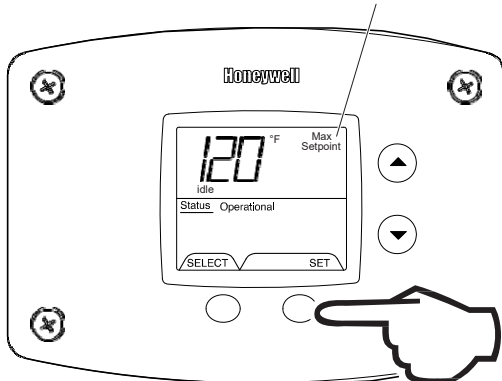

Fig. 54
4. Press 'Set' button to confirm new 'Max Setpoint' value and stop setting mode (Fig. 54).